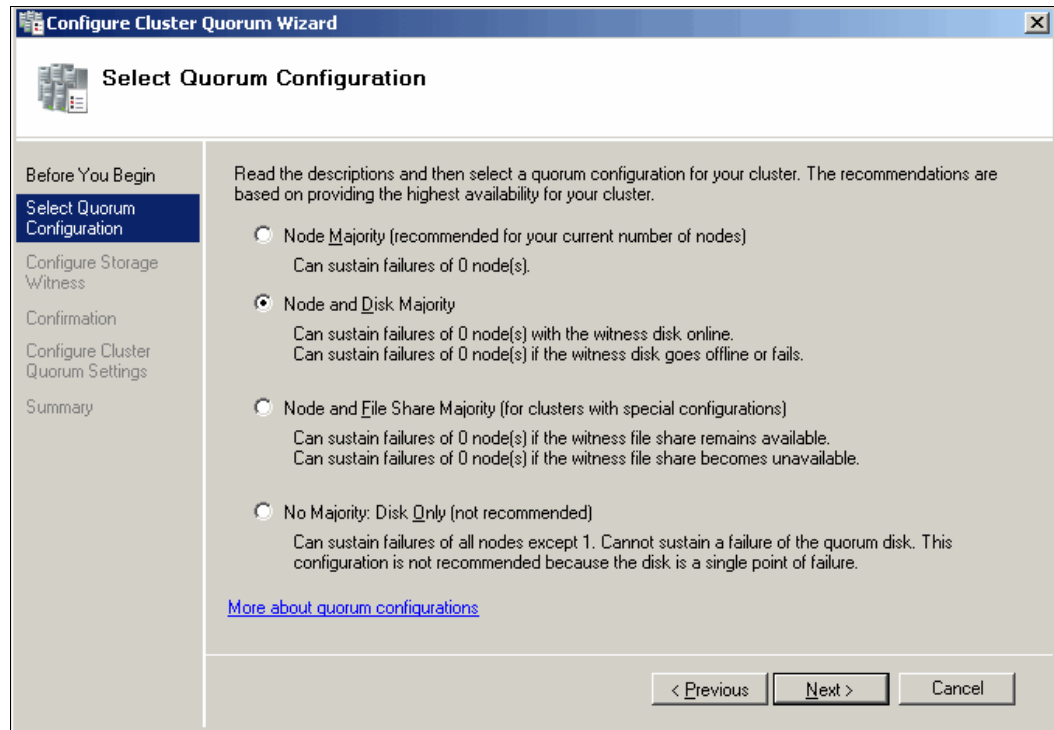
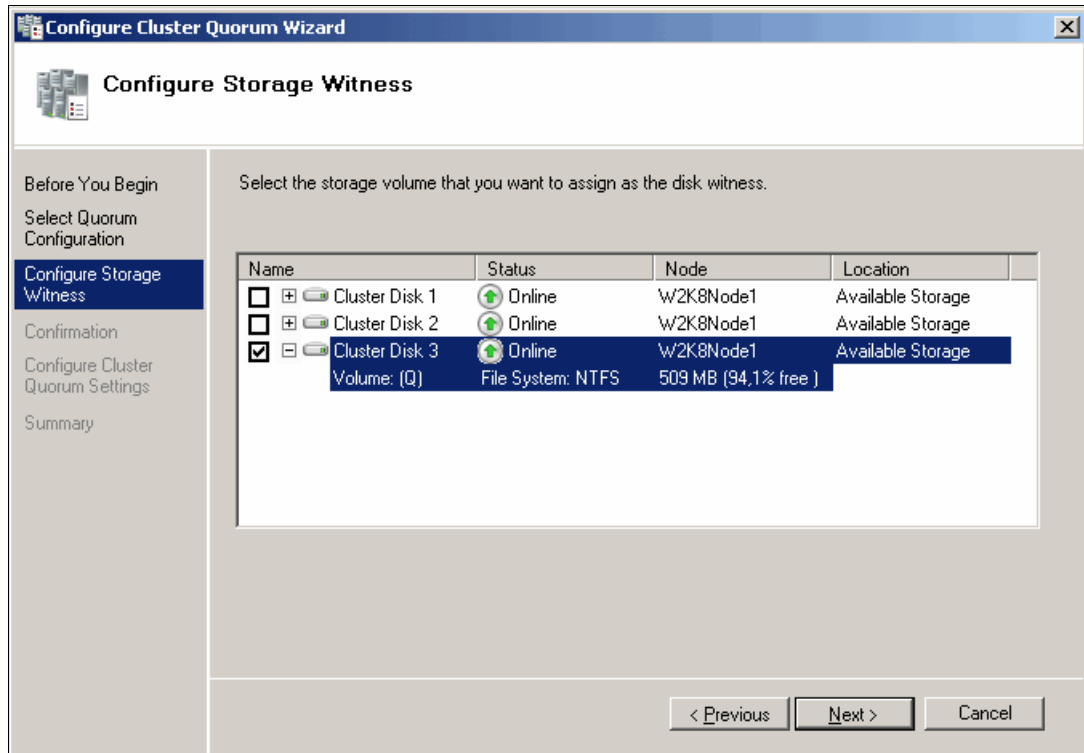

Figure 19-23 Select Quorum Configuration
Figure 19-24 Configure Storage Witness
4. Select the **Quorum Configuration** as shown in Figure 19-23 on page 575 and click **Next** to launch Configure Cluster Quorum Wizard as shown in Figure 19-24 on page 576.